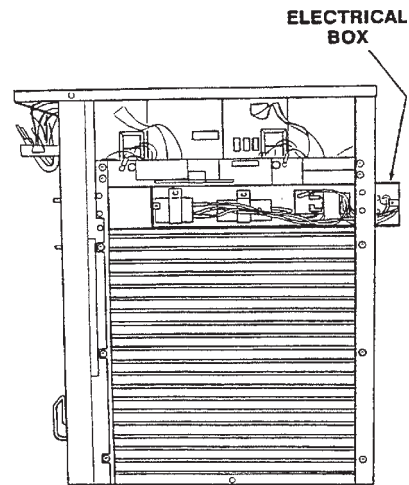

Figure 59. Electrical Box Removal
2. Remove the Phillips head screw from the side panel and pull down and out. If the failure is on the right side, the back panel and side electrical box must be removed. To remove the back panel, remove the two (2) Phillips head screws, then pull down and out. To remove the electrical box, remove the two (2) Phillips head screws from the cover and remove the cover. Remove the two (2) fan wires from the terminal block. Disconnect the two (2) red molex connectors from the back of the electrical box (Figure 59). Remove the four (4) Phillips head screws that hold the electrical box to the frame and remove through the rear of the freezer.